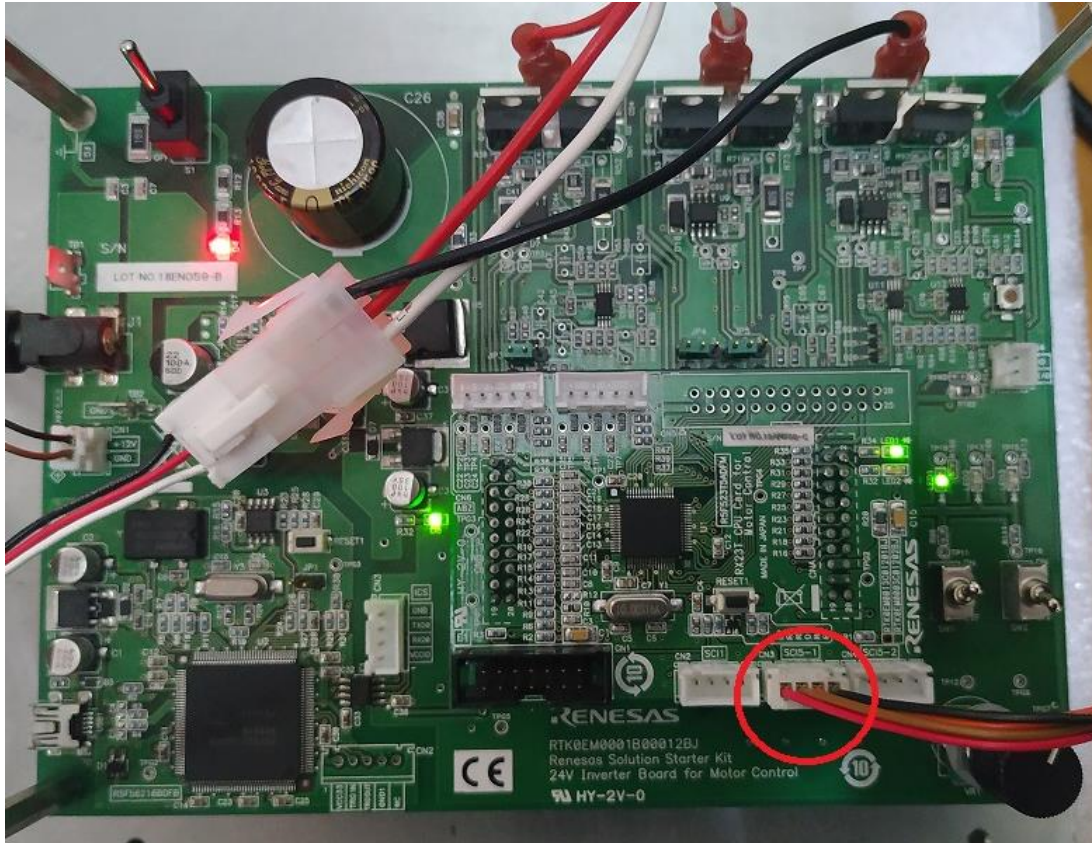

Figure 7 SCI connections of RX23T
- Figure 7 below shows the SCI connection to RX23T CPU card